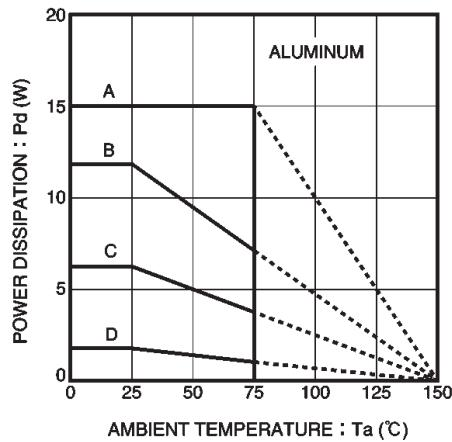

Fig. 11 Power dissipation curves
*4 $T_a = 75^\circ C$ (see Fig. 11).